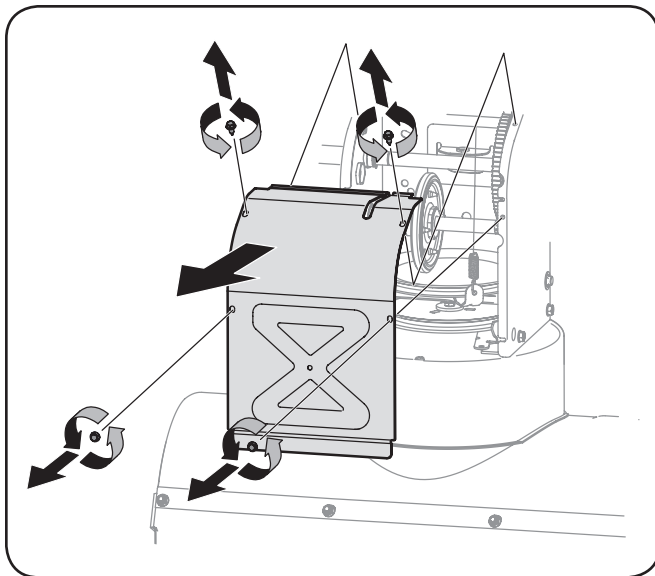

Figure 7-4
3. Remove the frame cover from the underside of the snow thrower by removing the self-tapping screws which secure it. Refer to Figure 7-4.
6. Remove the frame cover from the underside of the snow thrower by removing the self-tapping screws which secure it. See Figure 7-4.
3. Remove the frame cover from the underside of the snow thrower by removing four self-tapping screws which secure it. Refer to Figure 7-4.